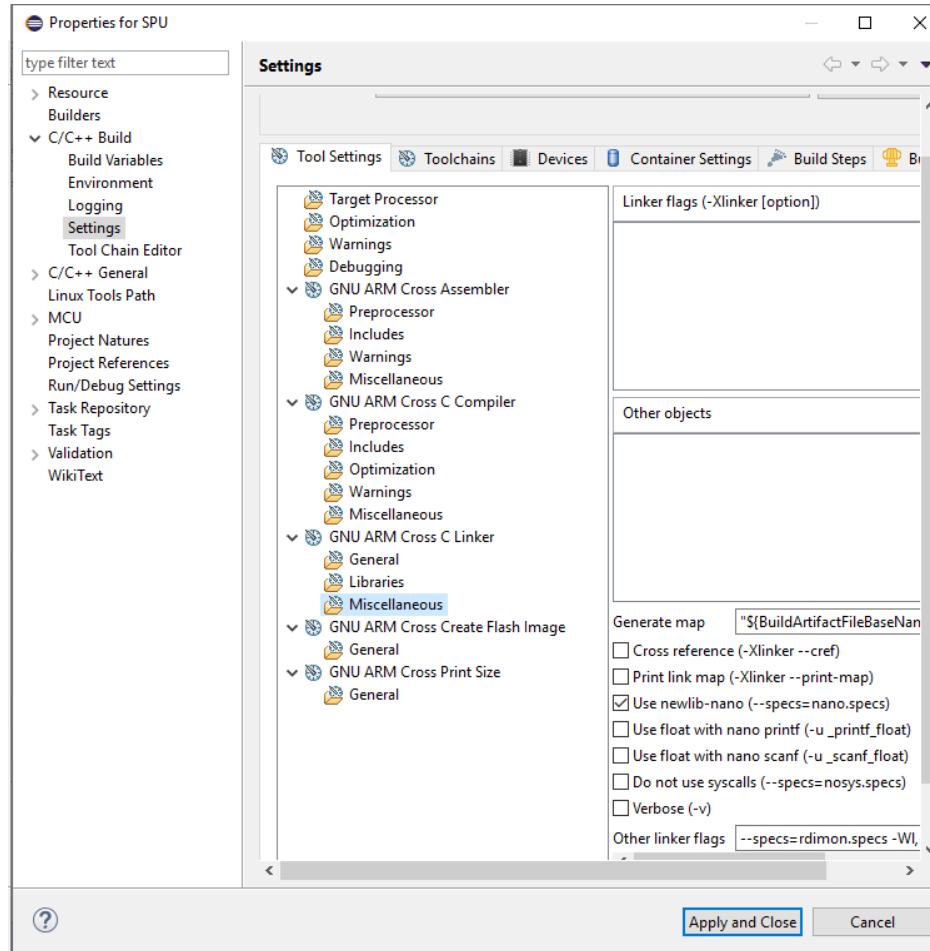

Figure 2-26 Select newlib-nano Option
11. In addition, enable newlib-nano in **Properties** → **Settingng** → **GNU ARM Cross C Linker** → **Miscellaneous** options as shown in Figure 2-26.